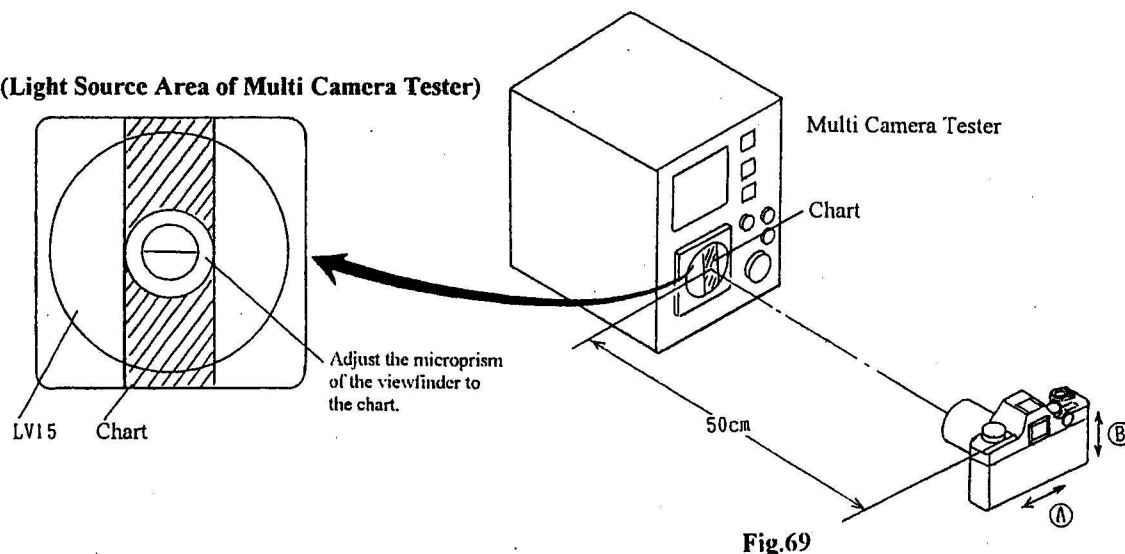

Fig.69
- 11) Look into the viewfinder and swing the camera gently right and left (in the direction of the arrow Ⓐ). (See Fig. 69) Adjust by turning the Adjusting Pin Ⓐ so that the shutter speed indicator shows the slowest speed at swinging.
- 16) Look into the viewfinder and swing the camera gently up and down (in the direction of the arrow Ⓑ). (See Fig. 69) Adjust by turning the Adjusting Pin Ⓑ so that the shutter speed indicator shows the slowest speed at swinging.